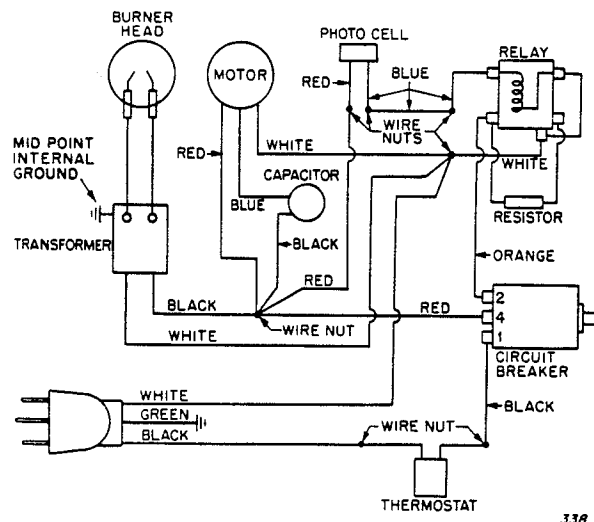

Figure 6. Wiring Diagram
4. Replace the housing, then install transformer and housing into the heater shell. Make wiring connections according to the Wiring Diagram, Figure 6.
2. The heaters have 1/4 horsepower motors, with internal starting switches and external starting capacitors. (See the Wiring Diagram, Figure 6.)